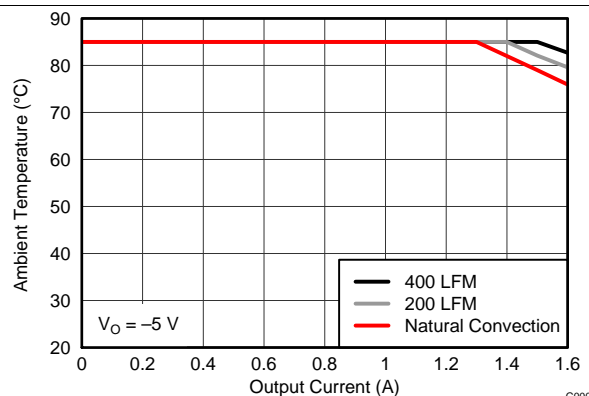
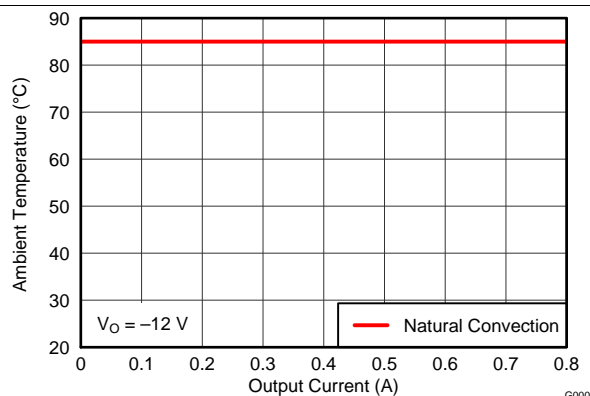
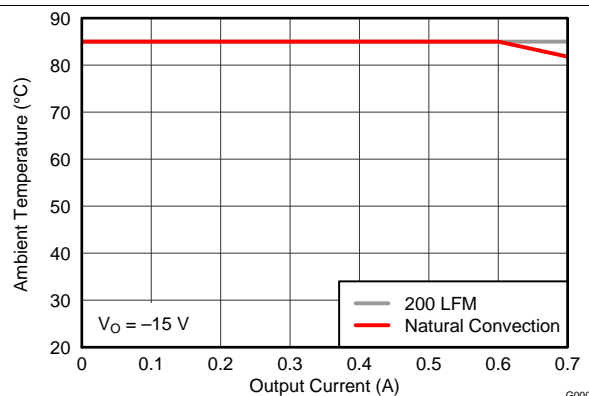

Figure 10. Safe Operating Area
Figure 11. Safe Operating Area
Figure 12. Safe Operating Area
- (2) The temperature derating curves represent the conditions at which internal components are at or below the manufacturer's maximum operating temperatures. Derating limits apply to devices soldered directly to a 100 mm × 100 mm, 4-layer, double-sided PCB with 1 oz. copper. Applies to Figure 10, Figure 11, and Figure 12.